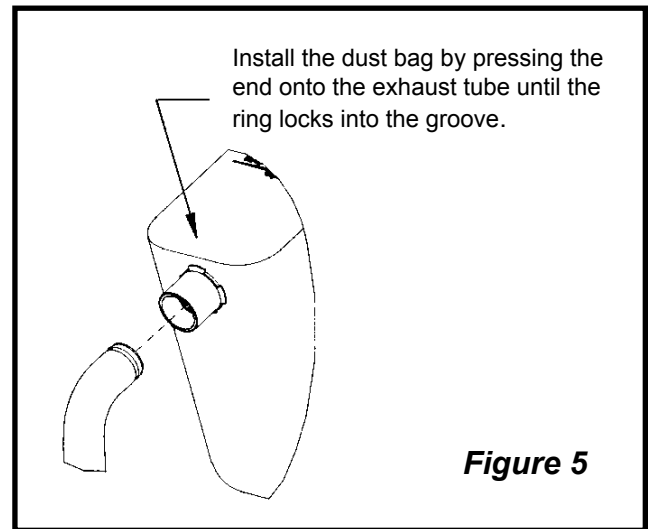

Figure 5
This machine must be connected to the electrical ground to protect the operator from electric shock. The machine has a power cord with two main conductors and one earthing conductor. Connect the plug to the type of receptacle shown in figure 5. The green and yellow conductor cord is the ground wire. Never connect this wire to any terminal other than the ground terminal.
1. Install the dust bag by pressing the end onto the exhaust tube until the ring locks into the groove (*Figure 5*). This is best done by pressing on the back of the bag opening with the palm of your hand.